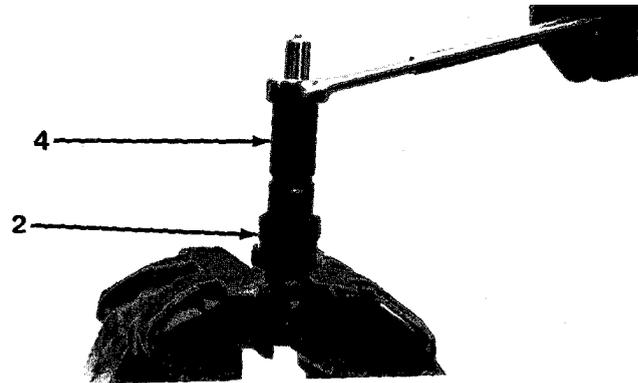

Figure 7-2
4. Install nozzle retainer (4) into injection nozzle (2, Figure 7-2). Torque nozzle retainer (4) to 22 lb-ft (30 N•m).